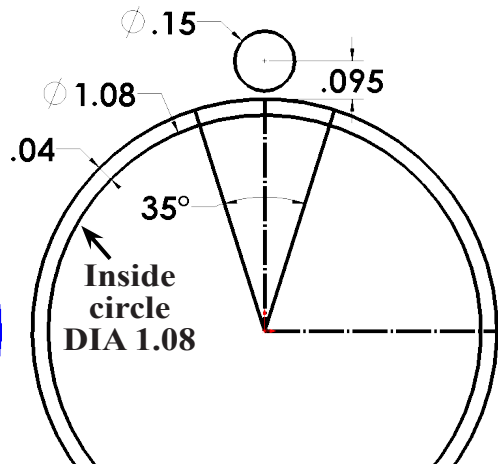

Fig. 7
Step 11. Add dimensions, **Fig. 7**. Be sure to dimension **inside circle 1.08**.